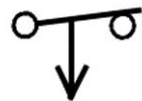

Figure 7-17 Timed contact for question 5.
5. For the timer relay contact shown in Figure 7-17, when the relay coil is de-energized, there is a time delay before the contact closes. (True or False) 5. _____